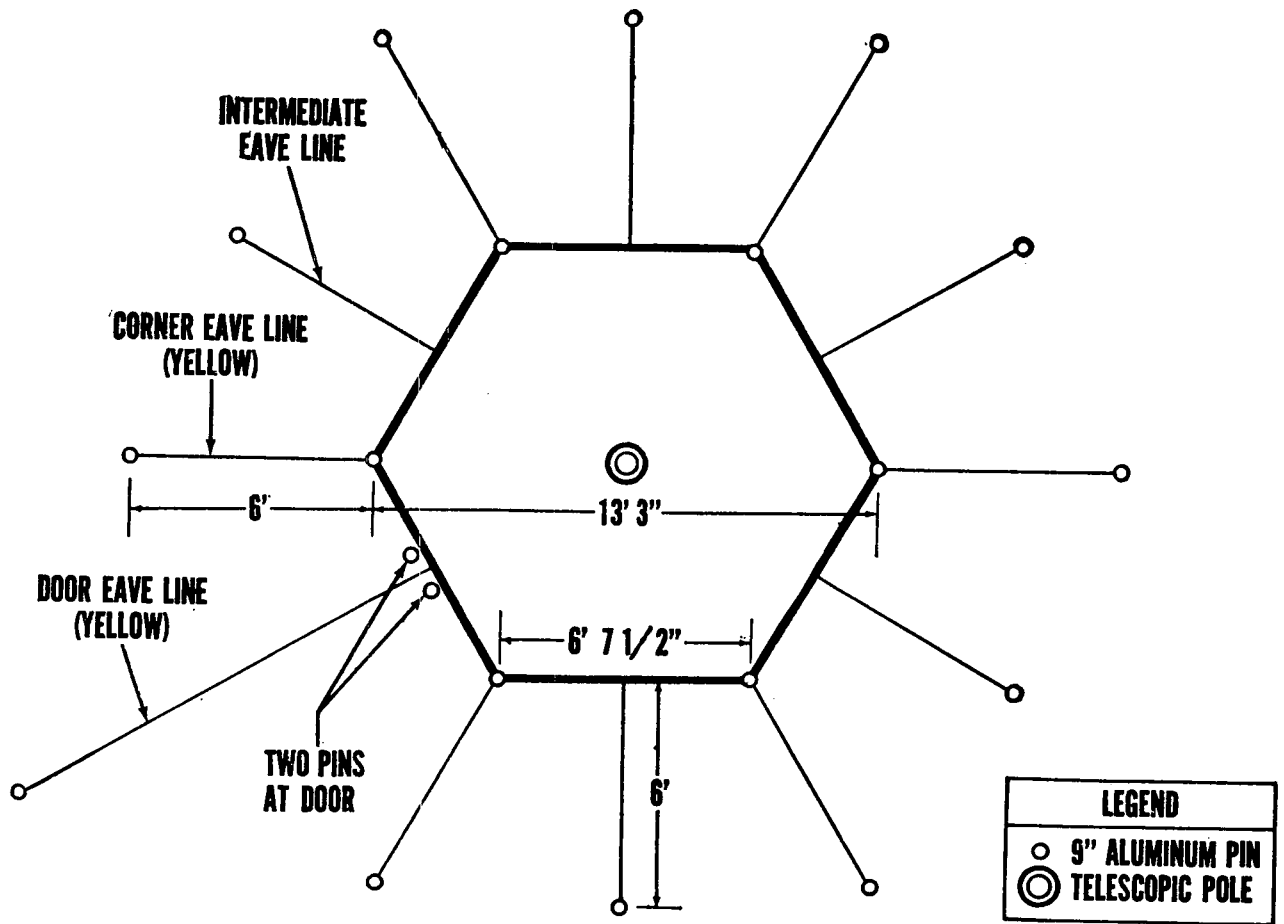

Figure 36. Ground plan of tent, hexagonal, lightweight, M-1950.
c. Ground Plan. Before pitching the tent, study the ground plan carefully (fig. 36).